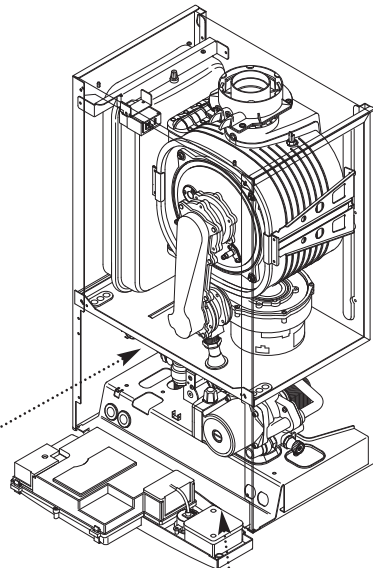

Fig. 78
15. Turn the tap off and draw off from a hot tap. Undo the blanking cap and remove the threaded bush (Fig. 78).